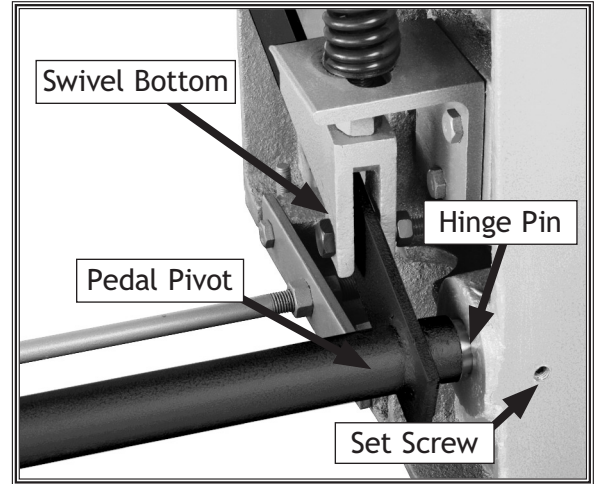

Figure 5. Foot pedal assembly.
To install the foot pedal as shown in Figure 5, do these steps:
5. When complete, the finished assembly should look like Figure 5.